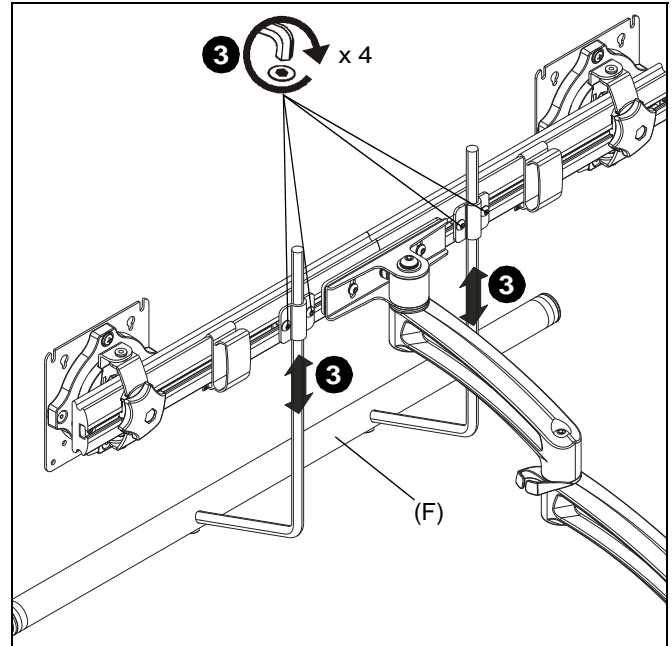

Figure 10
3. Position handle (J2) at desired height and secure by tightening button head cap screws attaching handle brackets to array. (See Figure 10)